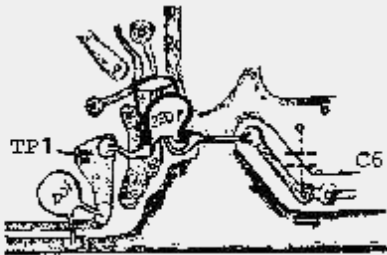

Figure 2
3. Remove the sex (6) screws securing the PLL unit to the chassises and fold the unit over, to allow access to the foil side of the circuit board.
4. Remove the jumper wire that is installed between TP-1 and C6. Install the parallel circuit consisting of the 220 pF capacitor and the 470 μ H coil in its place. See figure 2.
5. Install the .001 μ F capacitor as shown in figure 2.